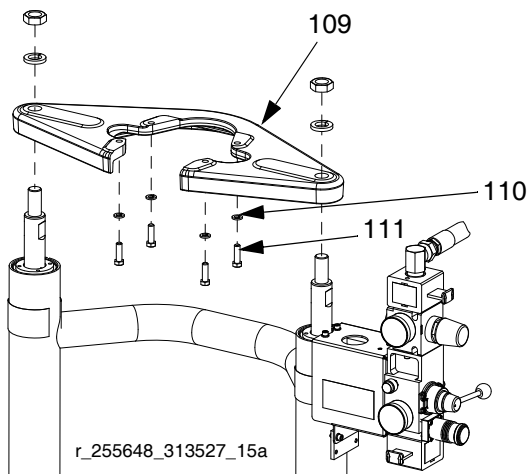

FIG. 46: Electric Driver on D60 with Ram
4. Unscrew the four bolts (111) shown in FIG. 46, and remove the driver by attaching a secure hoist to the driver lift ring (H).
1. Using a secure hoist, attach the motor to the mounting plate (109) with screws (111) and washers (110). See FIG. 46 on page 35.